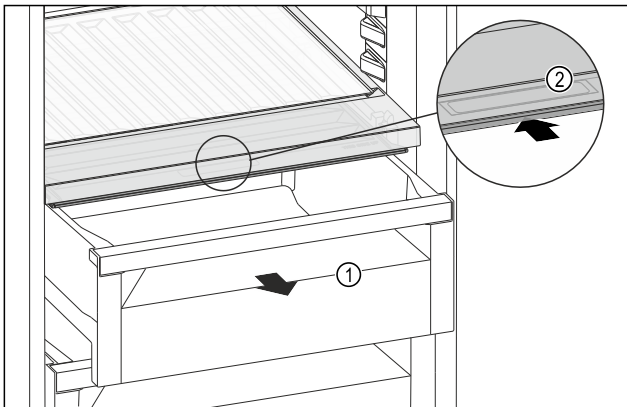

Fig. 187
- ▶ Pull out the drawer Fig. 187 (1).
- ▶ Grasp the recessed grip Fig. 187 (2) on the compartment lid and push the compartment lid backwards at the same time.